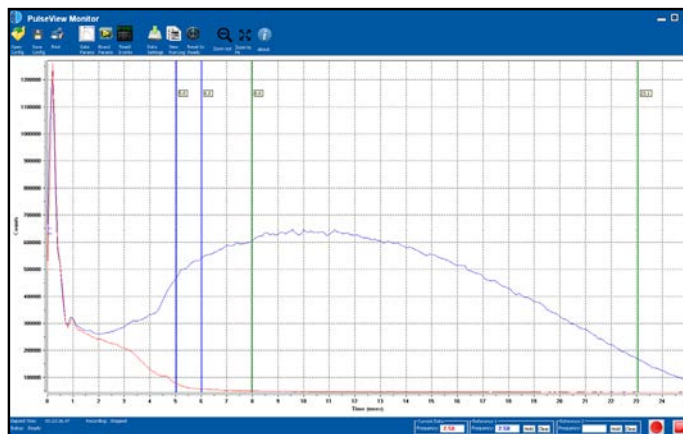

Figure 6.6. Sulfur Emission and Gate Settings for Maximizing Sulfur Response Using a 3-mm Combustor
6. With a 3-mm combustor, the sulfur emission extends to around 20 ms, and the emission appearance differs (Figure 6.6).